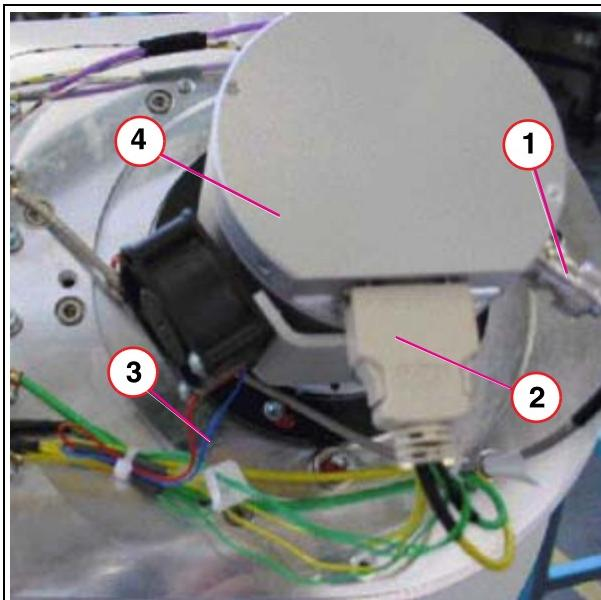

Fig. 9: II \_ Connection
2. Remove the upper I.I. cover (already removed in (Fig. 9 / p. 40)).
3. Unplug the connectors (1/Fig. 9 / p. 40), (2/Fig. 9 / p. 40) and disconnect the fan wires (3/Fig. 9 / p. 40).
7. Turn the entire camera (4/Fig. 9 / p. 40) counterclockwise until it is no longer attached. For subsequent reinstallation, count the number of turns when removing the camera. The connector (2/Fig. 9 / p. 40) should be in the position shown in (Fig. 9 / p. 40).
9. Reattach the connectors (1/Fig. 9 / p. 40), (2/Fig. 9 / p. 40) and the fan wires (3/Fig. 9 / p. 40).